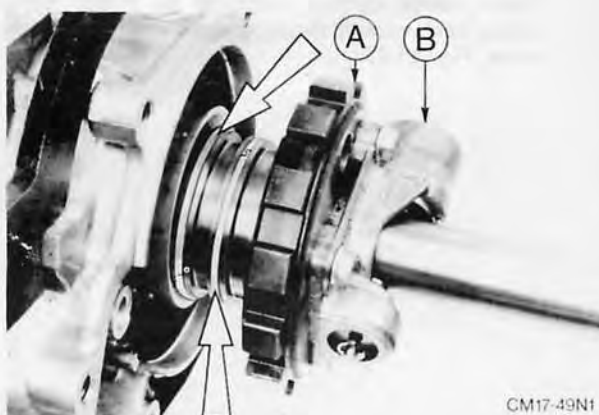

Fig. 111. Output shaft complete with governor
37. Install output shaft complete with governor, taking care not to damage piston rings on governor hub, Fig. 111.